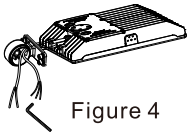

Figure 4
**2. DIRECT MOUNTING (DM)**
Step 1: Separate the bracket with tool. (Figure 4)